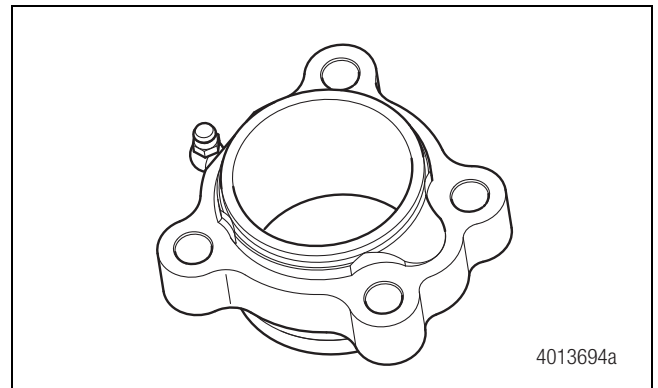

Figure 11.44
8. Clean the inside surface of the housing. Figure 11.44.